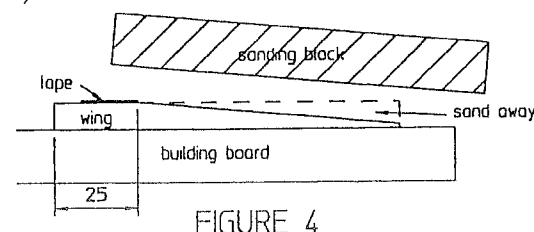

FIGURE 4
* Sand the wing section into the top side of the wing. The first part of the wing has a convex shape till about 1/3 of the width and from this highest point the thickness drops off in a straight line till the trailing edge of the wing. The trailing edge will be about 1 mm thick. Do not sand it thinner, it will become too vulnerable. The highest point of thickness of the wing is indicated by the dotted line at 1/3 of the wing chord. With the sanding block we sand the balsa away from this line towards the trailing edge. The sanding block is held tilted backwards. The wing is aligned parallel to the edge of the building board at about 10 mm away from the edge. When sanding the sanding block will eventually hit the edge of the building board before you have sanded away too much of the trailing edge of the wing. This way the trailing edge will never become too thin (figure 4).